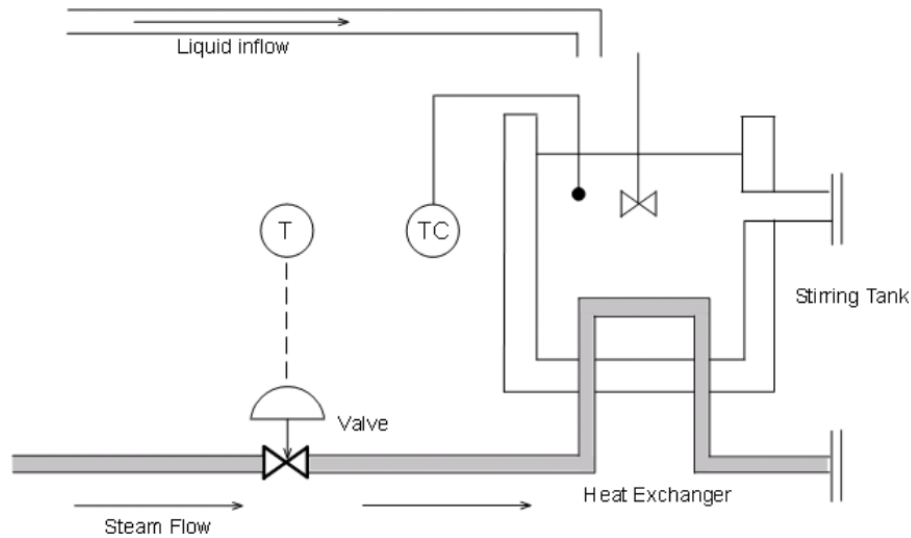

Figure 1: Schematic of the heat exchanger system (*Courtesy of Mathworks*)
1. **Heat Exchanger System** In this question, a heat exchanger system will be investigated. A chemical reactor called "stirring tank" is depicted in Fig. 1. The top inlet delivers liquid to be mixed in the tank. The tank liquid must be maintained at a constant temperature by varying the amount of steam supplied to the heat exchanger (bottom pipe) via its control valve. Variations in the temperature of the inlet flow are the main source of disturbances in this process.